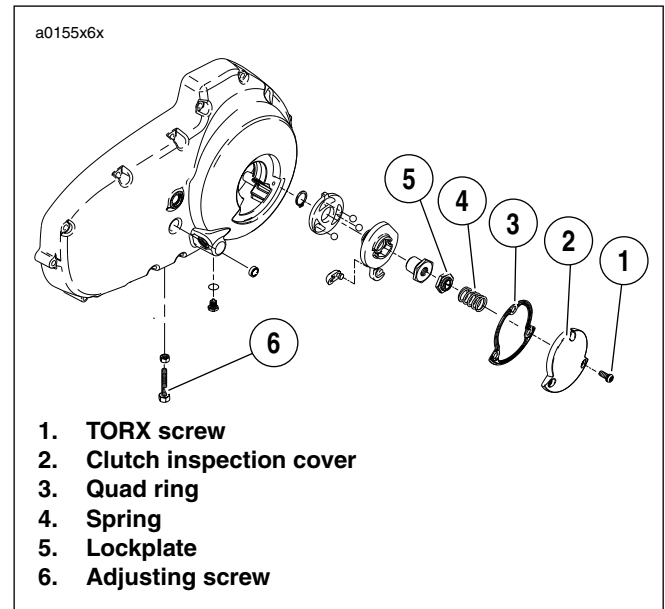

Figure 1-13. Clutch Release Mechanism
- See Figure 1-13. Remove three TORX screws with washers (1) from clutch inspection cover (2). Remove clutch inspection cover from primary cover.
Quad ring removed from primary cover for illustrative purposes only in Figure 1-13.
10. See Figure 1-13. Install clutch inspection cover using three TORX screws with washers. Tighten in a crosswise pattern to 84-108 **in-lbs** (9.5-12.2 Nm).